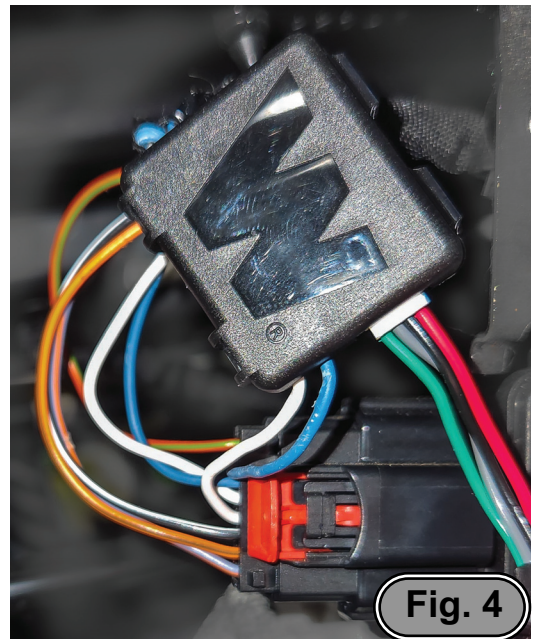

Fig. 4
4. Ensure that the Sensor Box is securely closed, with both wires in their respective channels (Fig. 4).